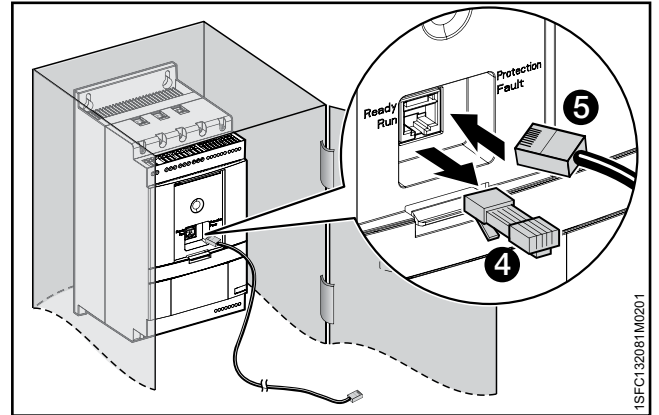

Figure 4.10
3. Remove the RJ45 plug see ❹. Connect one end of the network cable to the network port on the front of the softstarter ❺ in **Figure 4.10**.